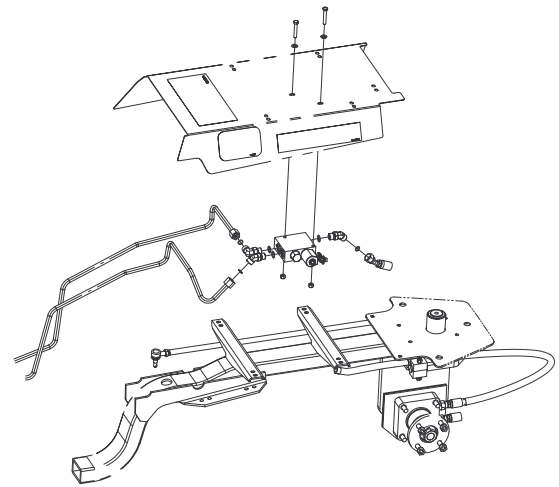

Figure 9
20. Mount the selector valve assembly to the underside of the skirt with (4) 5/16" x 2-1/2" lg. bolts, flat washers and lock nuts (Fig. 9).